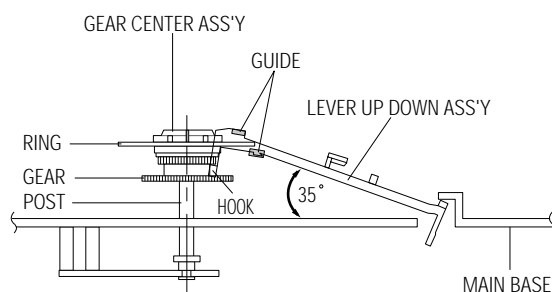

Fig. 2-30 Lever Up Down Ass'y Removal
- 1) Insert the Lever Up Down Ass'y ① in the rectangular holes on Main Base as shown in Fig 2-30.
- 2) Lift the Lever Up Down Ass'y ① about 35°.
(Refer to Fig 2-30)